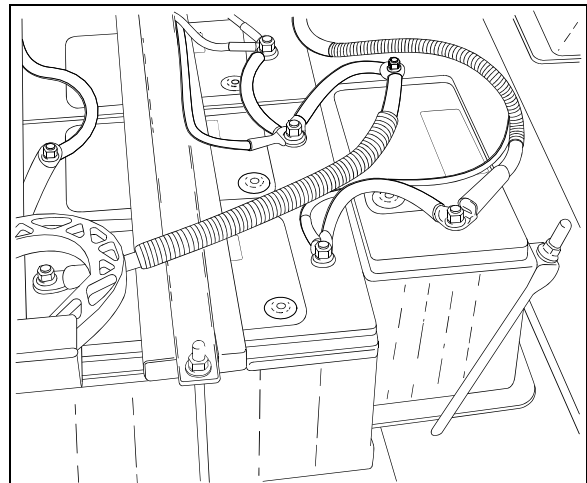

FIGURE 11: BATTERIES 06343
The vehicle is provided with four (4) maintenance-free 12-volt heavy-duty batteries connected in series-parallel (Fig. 11 & 12). The top-mounted negative and positive terminals are tightly sealed to prevent leaks. Water never needs to be added to this type of battery. There are no filler caps in the cover. The battery is sealed, except for small vent holes in the cover. The vents must not be restricted as they allow small amounts of gases produced in the battery to escape. The special chemical composition inside the battery reduces gassing to a very small amount at normal charging voltages. Besides reducing gassing, the special chemistry greatly reduces the possibility of overcharge damage.